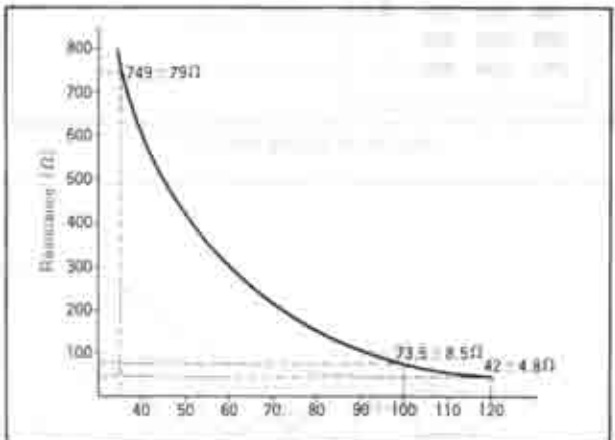

Fig. 15-12 Characteristic of thermister
- 1) If temperature and resistance value at that temperature are within range of tolerance, unit is satisfactory. Range of tolerance is  $\pm 20\%$  of resistance value shown in Fig. 15-12 (including measuring errors).